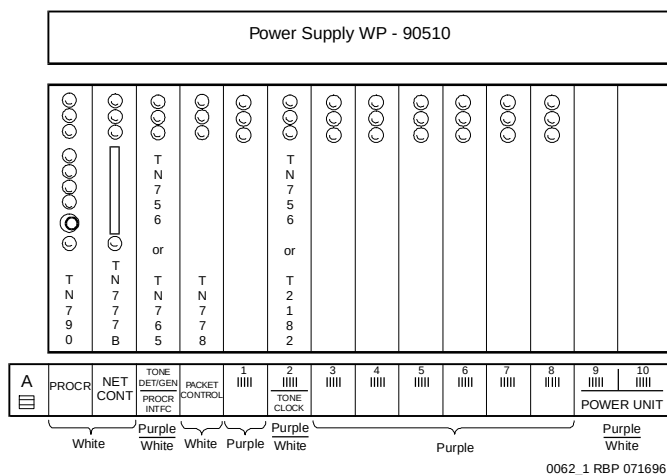

Figure 12-45. Circuit-Pack Locations in R5vs Wall-Mounted Cabinet
- Figure 12-45 and Table 12-5 for a R5vs wall-mounted cabinet